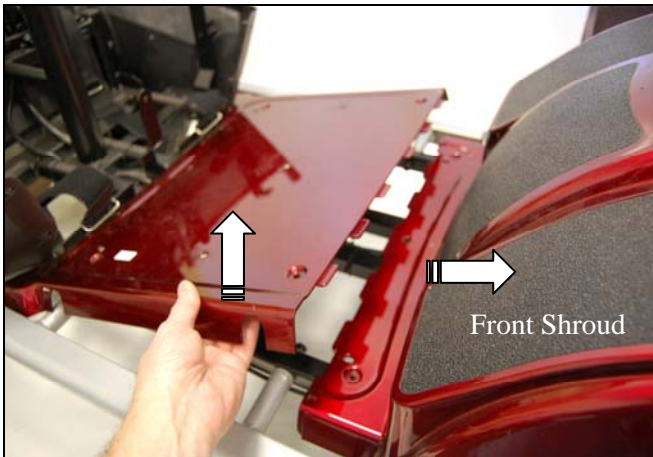

Figure 20. Removing Center Floor Shroud
- 9) Push the front shroud forward and lift the center floor shroud to remove. See figure 20 on page 22.